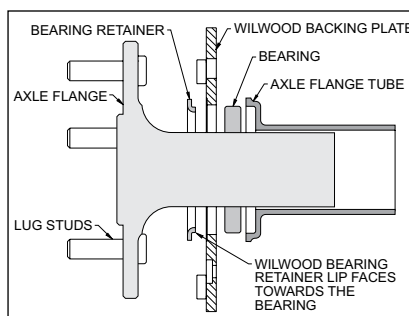

Figure 4. Retainer / Axle Diagram
- With the larger I.D. side of the rotor (4) facing away from the hat (3), bolt rotor (4) to hat (3) through the backside of the rotor using washers (5) and bolts (6). Apply red *Loctite*® 271 to the bolt threads and torque to 155 **in-lb** using a criss-cross pattern. For an added measure of security, the bolts may be safety wired using standard 0.032 inch diameter stainless steel safety wire as shown in Figure 4. Please refer to Wilwood's data sheet DS-386 (available at www.wilwood.com/Pdf/DataSheets/ds386.pdf) for complete safety wire installation instructions.